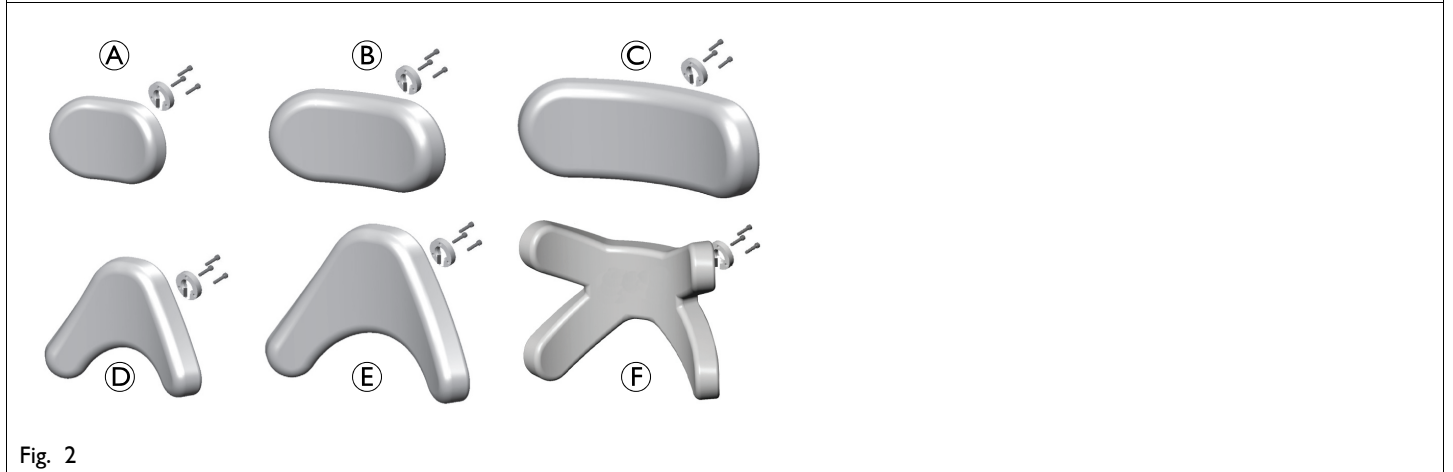

Fig. 2
- Headrest pad (see Fig. 2 and following table for options)